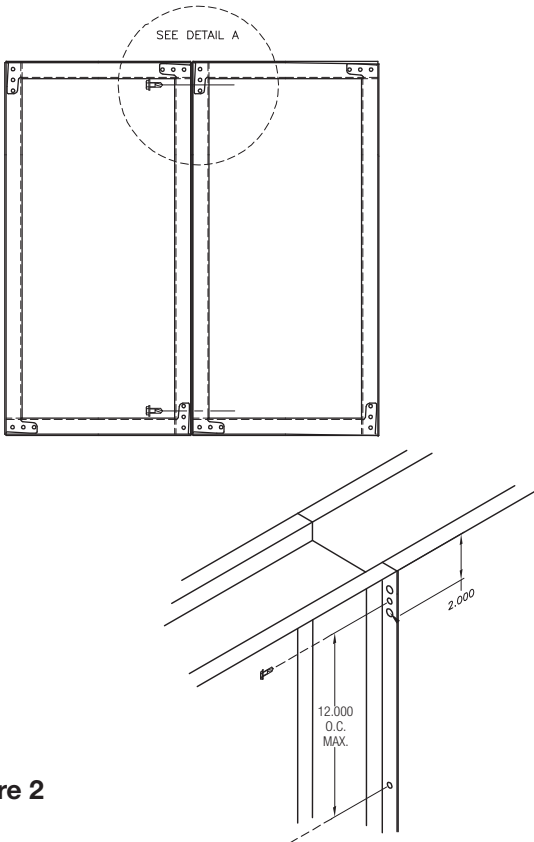

Figure 2
2. If more than two sections wide, unit ships as a multiple section assembly and a single section together. The single section is joined to the side of the multiple section where the jackshaft extends past the frame four inches (102mm). **Figure 2**.